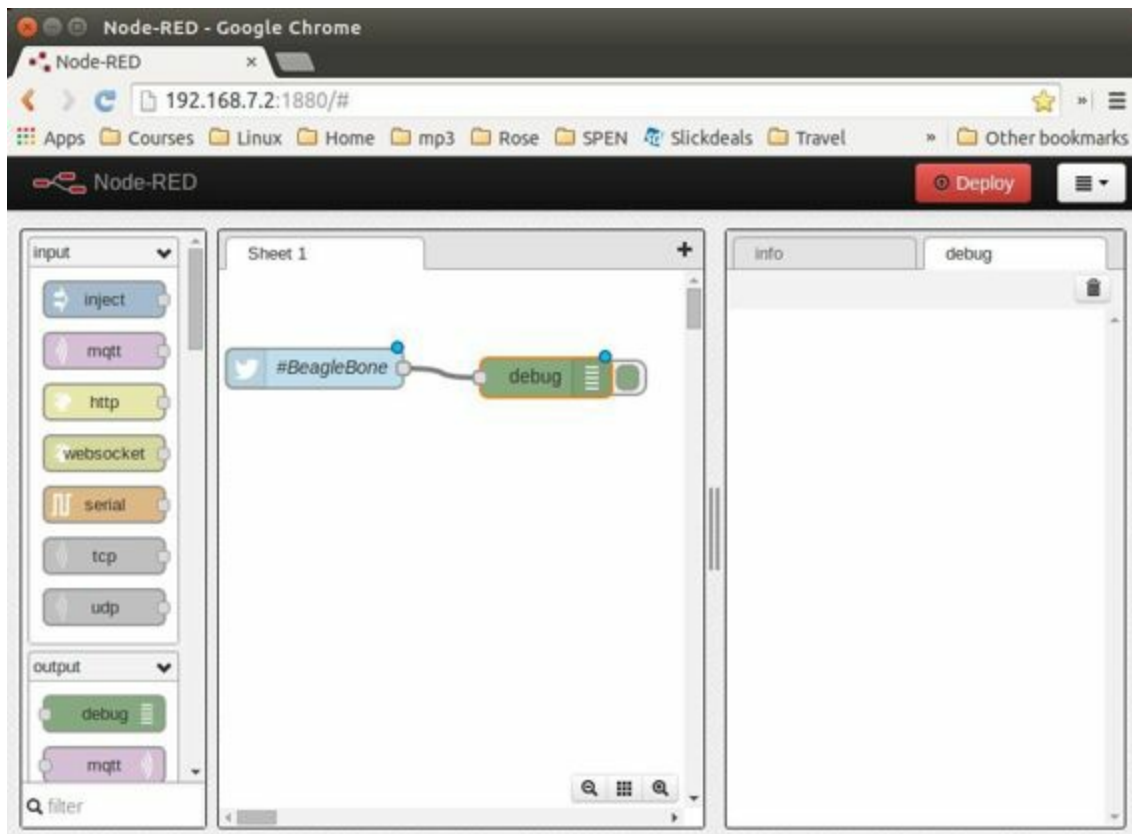

Figure 6-13. Node-RED Twitter adding *debug* node and connecting
9. Connect the two nodes by clicking and dragging (Figure 6-13).